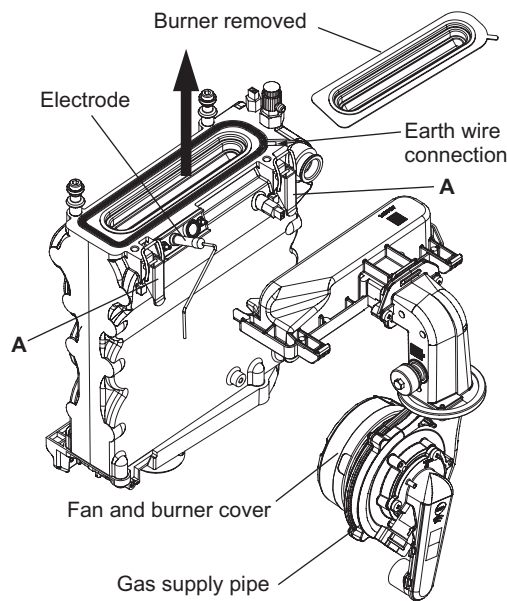

Fig. 6.5
6.3 PREPARE FOR SERVICING - Fig. 6.5
10. Unlatch the two clips 'A' in Fig. 6.5 securing the fan and burner cover and remove the complete assembly.
8. Unlatch the two clips 'A' in Fig. 6.5 securing the fan and burner cover and remove the complete assembly.